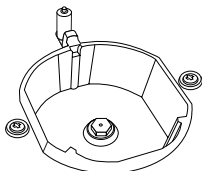
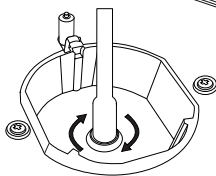

Figure 5
Figure 6
2. Please remove nozzle (Figure 5) from burner with special nozzle driver and install new nozzle (Figure 6)